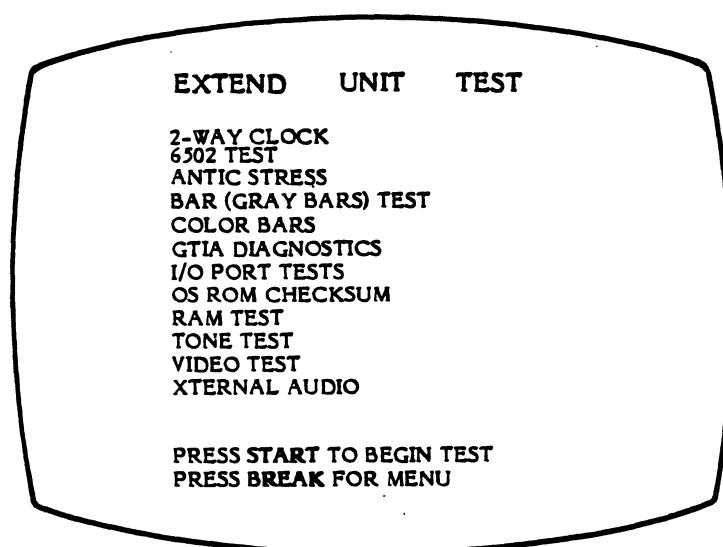

Figure 2-26. Extended Unit Test Screen
The bottom of the screen shows the options. The first character of each test selects that test. The RETURN key ends entry of choices and causes diagnostics to use only those tests during EXTEND UNIT TEST. Use the DELETE key to erase choices listed at the bottom of the screen just behind the cursor. **Note:** If 2-WAY CLOCK TEST (2) and 6502 TEST (6) are not desired, DELETE must be used to erase all choices. Then each character except 2 and 6 (ABCGIORTVX) must be pressed followed by a RETURN. Press the BREAK key and return to the EXECUTIVE MENU. Press SELECT to move pointer to the EXTENDED UNIT TEST. Press OPTION to display the EXTENDED UNIT TEST menu shown in Figure 2-26.